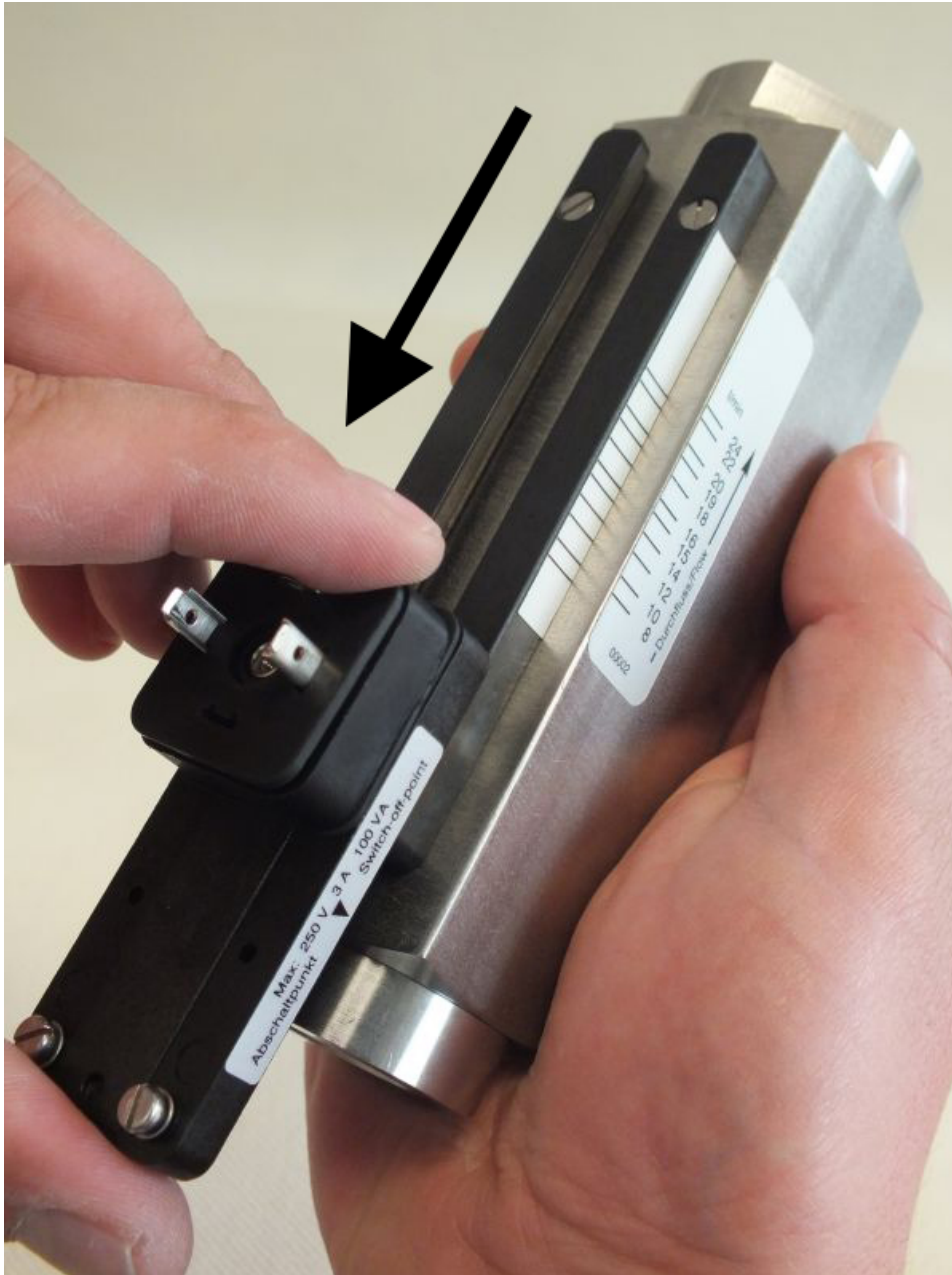

Fig. 61: Remove the switch contact from guide rails
4. Slide the switch contact from the guide rail (Fig. 61) in the direction of the arrow